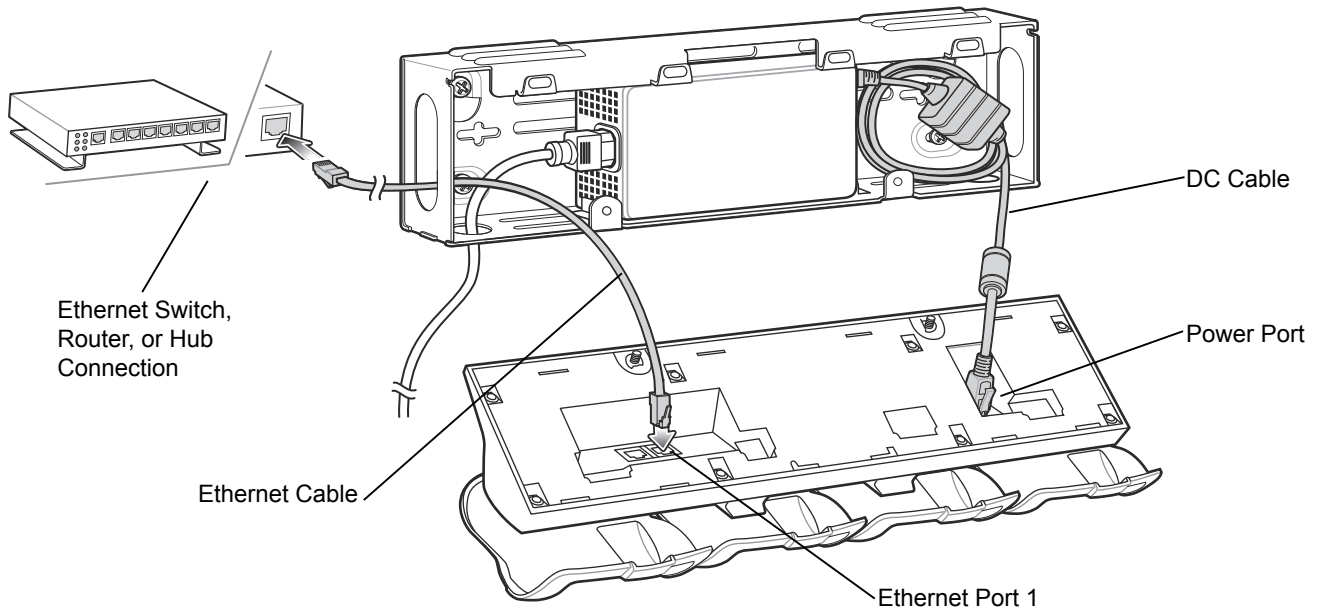

Figure 2-13 Four Bay Ethernet Cradle Connection
2. Connect an Ethernet cable to Port 1 of the first cradle as shown in Figure 2-13.